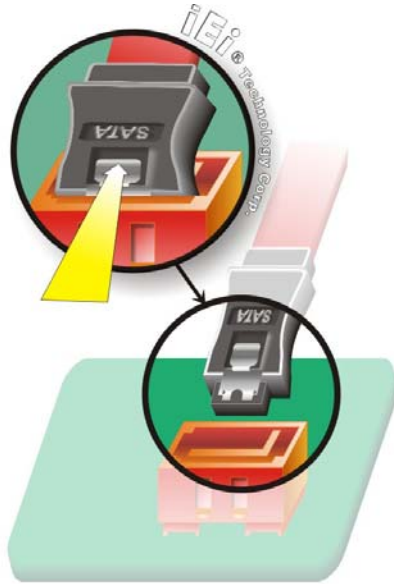

Figure 4-22: SATA Drive Cable Connection
Step 2: Insert the cable connector. Press the clip on the connector at the end of the SATA cable and insert the cable connector into the onboard SATA drive connector. See Figure 4-22.